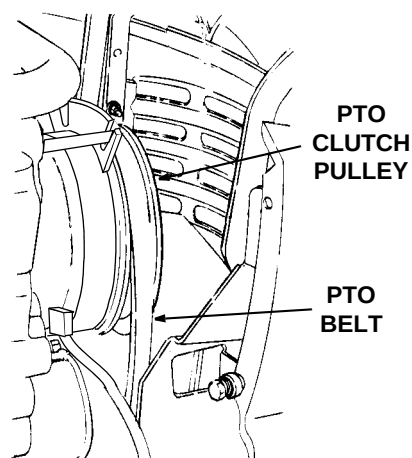

Figure 50
9. Open the tractor hood and remove the forward end of the PTO belt from the PTO clutch pulley on the front of the engine (Refer to Figure 50).